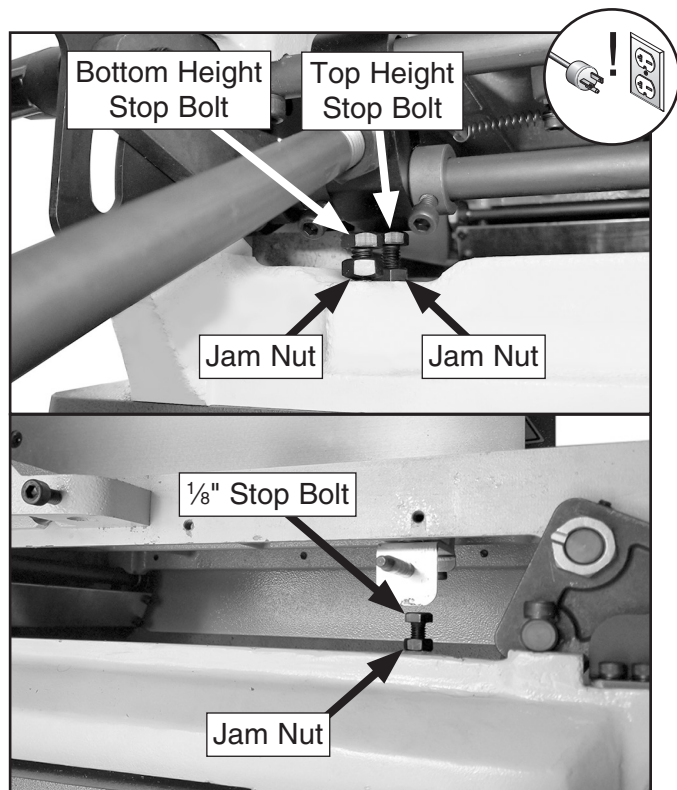

Figure 26. Positive stop bolts for infeed table.
The infeed table has three positive stop bolts (see **Figure 26**) that allow you to quickly adjust the infeed table between finish/final cuts and shaping/heavy cuts, and the maximum depth of cut of $\frac{1}{2}$ " (or less) when rabbeting.
2. Loosen jam nuts on both stop bolts (see **Figure 26**).
3. Raise table to minimum desired depth of cut, then tighten top height stop bolt (see **Figure 26**) until it contacts table. Tighten jam nut to secure stop bolt in position.